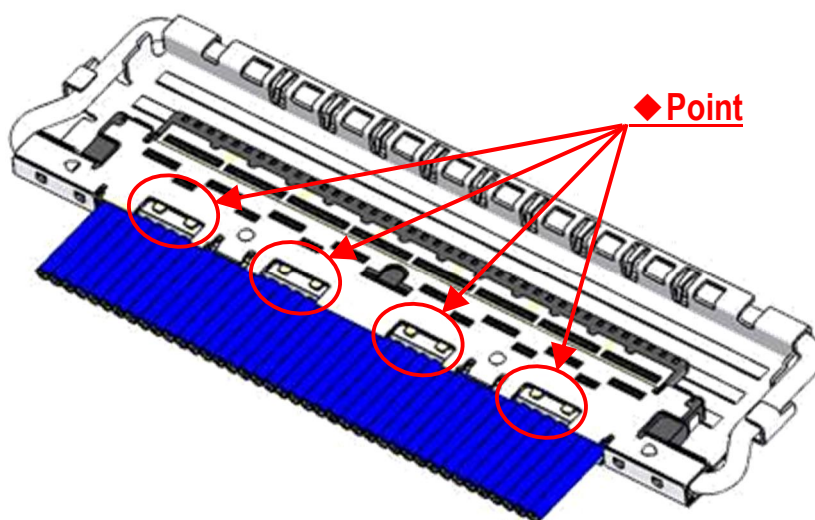

Fig.11 Soldering of Shell-B and Ground Bar
- ⑥ Soldering shell-A and shell-B with the soldering iron at all designated points is recommended. (Fig.11 ◆point)